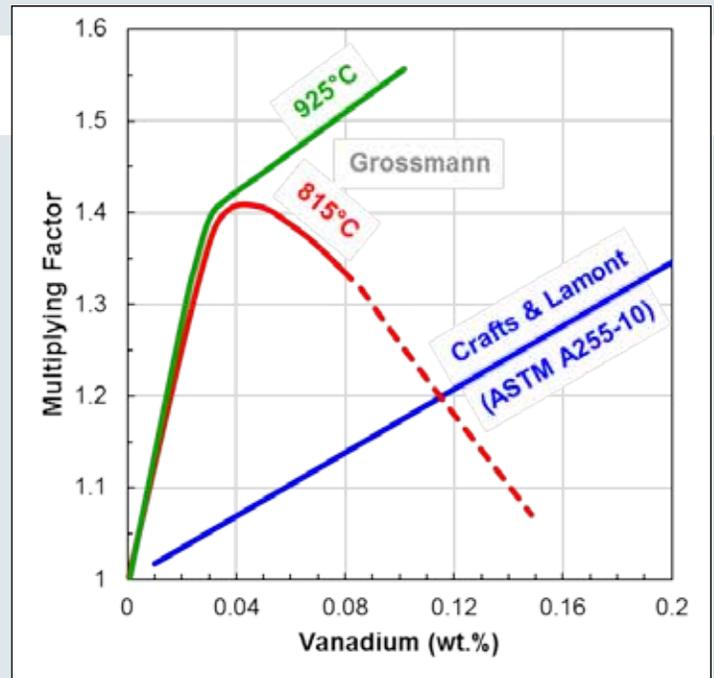

Figure 3. Multiplying factors for calculating the effect of vanadium on the hardenability of steel. Data from ASTM A255-10 [2] and Grossman [3].
Figure 3 shows the influence of vanadium (V), a common microalloying element in steel, on hardenability as a function of austenitizing temperature (from Grossmann [3]) as well as data currently used in ASTM A255 for determining the hardenability of steels [2]. Although the current ASTM standard indicates austenitizing temperature has no dependence, Grossmann showed a clear effect. At V levels typical of modern medium carbon microalloyed steels (approx. 0.08 wt.%), the influence of austenitizing temperature may be significant. Since Grossman's work, the influence of microalloying elements such as V and niobium (Nb) has been investigated in great detail, and the mechanisms found to be relatively complex [5-9]. Therefore, their influence on hardenability is mentioned briefly for awareness only.